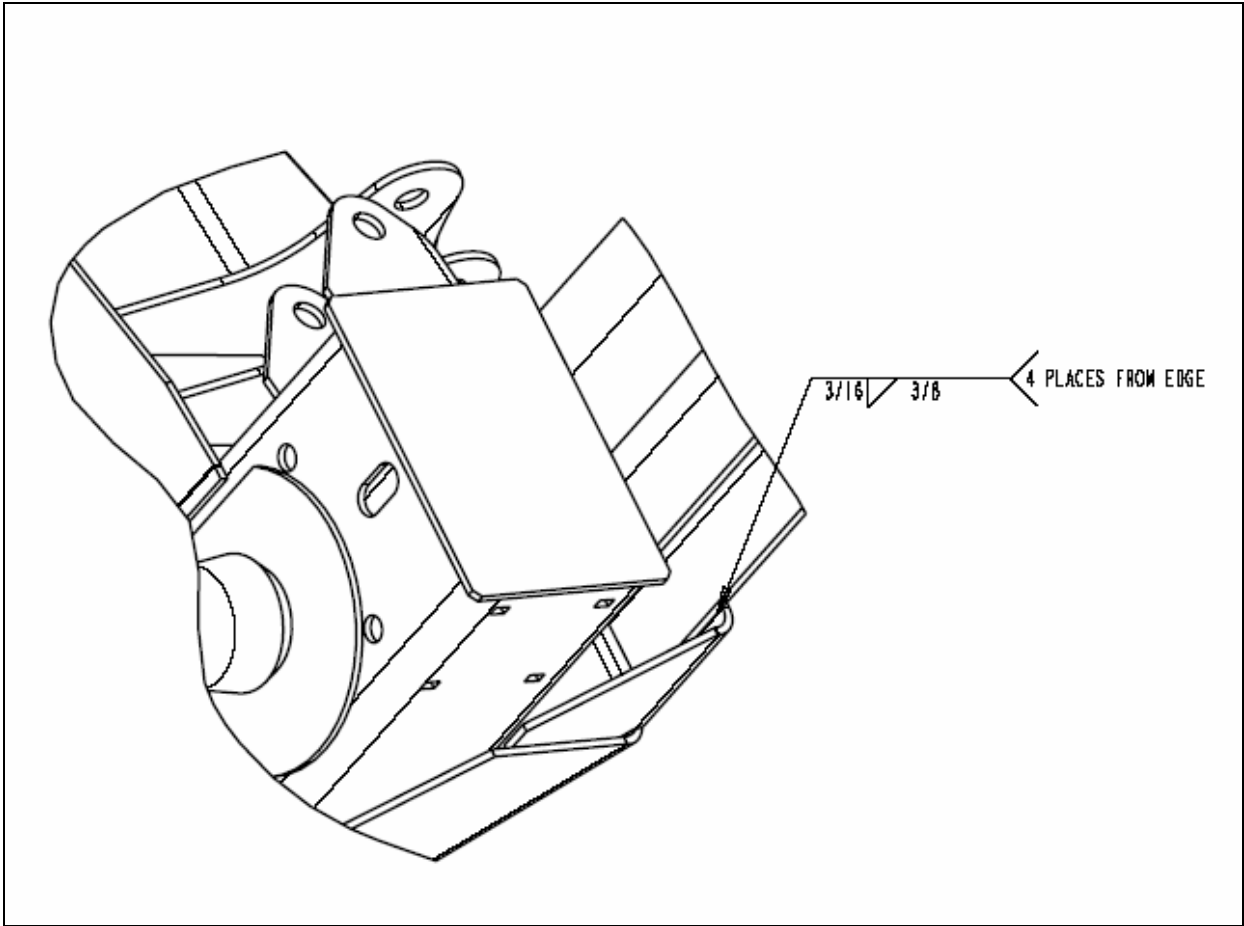

Figure 1: Weld channel edge to housing, 3/8 inch long weld from edge of housing
- a. Weld the 3/16 inch thick edge of the beam channel to the inside surface of the lower housing in 4 places as shown in Figure 1. Due to the difficult location, it is only possible to complete a short weld. Make the weld a minimum of 3/8 inch long, finishing at the edge of the housing.